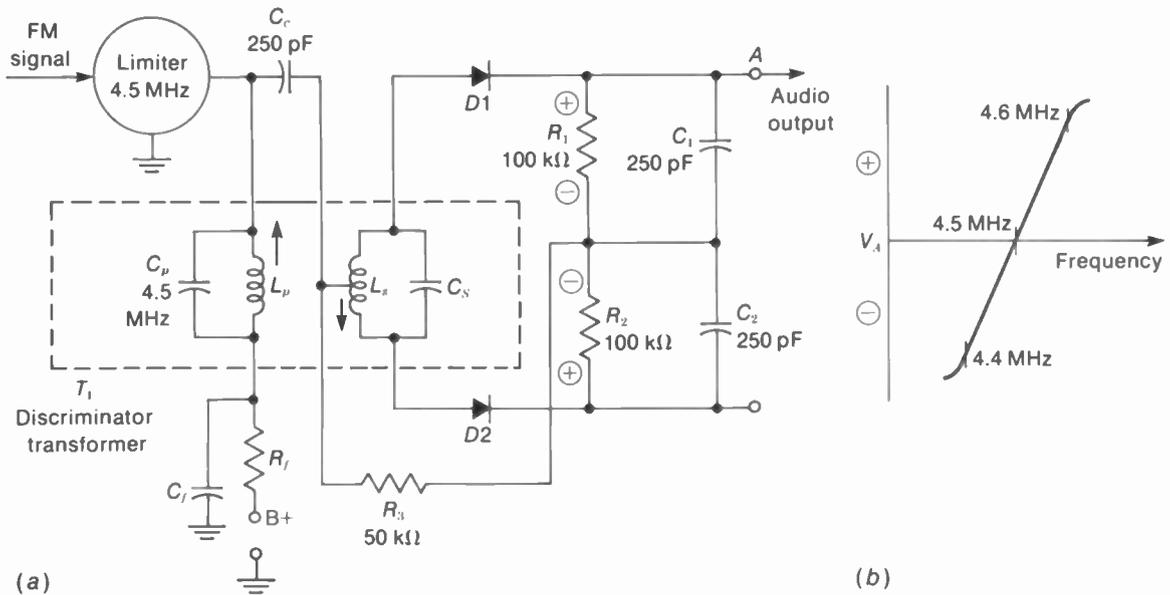
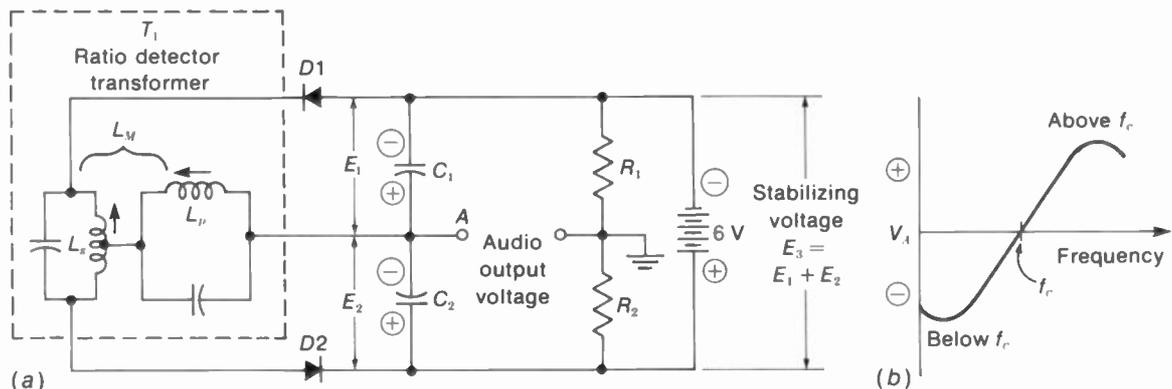

FIGURE 27-9 CENTER-TUNED DISCRIMINATOR FOR IF CENTER FREQUENCY OF 4.5 MHz.
FIGURE 27-12 BASIC RATIO DETECTOR CIRCUIT.  $T_1$  IS TUNED TO IF CENTER FREQUENCY. (a) BALANCED CIRCUIT WITH AC AUDIO OUTPUT AT POINT A; (b) S-RESPONSE CURVE.
**FM detector.** An FM detector rectifies and filters the IF signal to recover the audio modulation, as in an AM detector. In addition, however, the FM detector requires a tuned circuit that has different output voltages for frequency swings above and below center. In effect, the response of the tuned circuit converts the FM signal to amplitude variations, which are then rectified and filtered. The main types of FM detector circuits are the center-tuned discriminator in Fig. 27-9, the ratio detector in Fig. 27-12, and the quadrature-grid detector in Fig. 27-16. They are all tuned to the center frequency.
The triple-tuned discriminator gives good linearity on the S response curve, but it is seldom used because mutual coupling of three tuned circuits makes alignment difficult. Similar results are obtained with a double-tuned transformer for the discriminator in Fig. 27-9 and the ratio detector in Fig. 27-12. In these transformers, both the primary and secondary are tuned to center frequency. However, the phase shift in the secondary varies with the frequency deviation.
As shown in Fig. 27-9, the input transformer is double-tuned, with primary and secondary resonant at the center frequency of 4.5 MHz. This
This is an FM detector circuit insensitive to amplitude variations in the FM signal. Because no limiter stage is necessary, allowing fewer IF amplifiers, the ratio detector circuit is often used. As shown in Fig. 27-12, the circuit is almost like a discriminator, but for a ratio detector the two diodes are connected in series. Notice that  $D1$  has IF signal applied to its cathode, while  $D2$  has signal at the anode.
**Circuit arrangement.** In Fig. 27-12, the input coupling transformer  $T_1$  has the same function as in the phase-shift discriminator. Both the
Below center frequency,  $D2$  has more IF signal input and  $E_2$  is greater than  $E_1$ . The result is audio output voltage of negative polarity at point A. This response is illustrated by the ratio detector S curve in Fig. 27-12, which is essentially the same as the discriminator response curve.